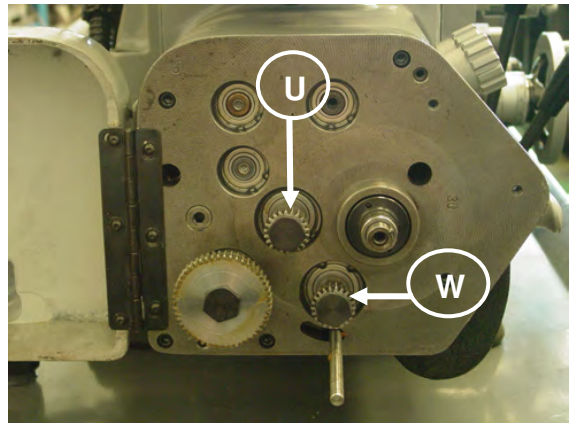
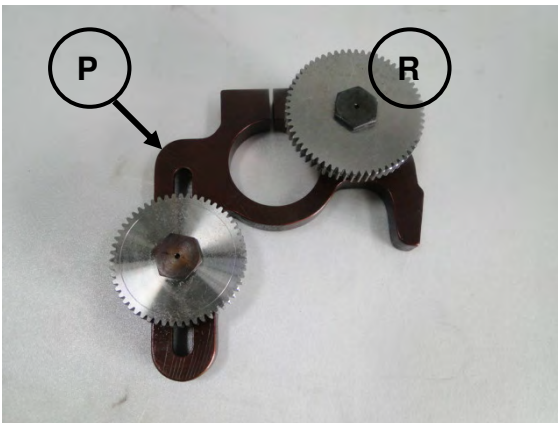
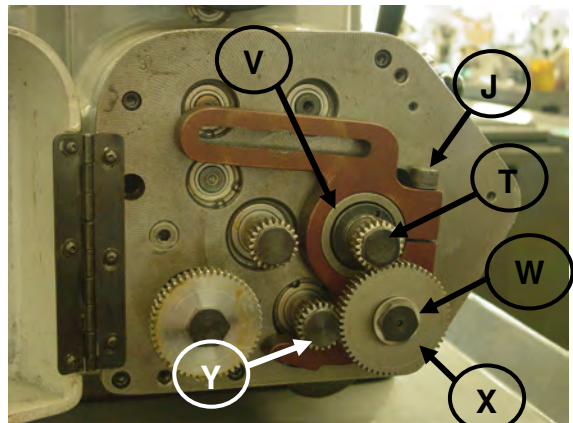

Figure 55-Threading Gearbox
Figure 56-Change Gear Bracket
Figure 57- Mounting Change Gear Bracket
2. On metric side of change gear bracket "P" (Figure 56) mount "Idler Gear" "R" (Figure 56). Do not tighten bolt "S" fully.
4. Mount change gear bracket assembly, Figure 56, on pivot post "V" (Figure 57), Do not tighten bracket bolt "U" (Figure 55) fully.
5. Remove "First Gear" "U" (Figure 55), and replace bolt. Do not misplace key.
6. Mount "First Gear on Screw" "T" (Figure 57).
7. If thread chart specifies number of teeth in "Tumbler Gear" to be other than 22 teeth, remove gear "Y" (Figure 57) and replace with specified gear.
8. Adjust "Idler Gear" "X" (Figure 57) with 0.003"-0.004" backlash between it and "First Gear on Screw" "T" (Figure 57). Use plastic shim stock to help determine backlash. Tighten bolt "W" (Figure 57).
9. Pivot bracket to obtain 0.003"-0.004" backlash between "Idler gear" "X" (Figure 57) and "Tumbler Gear" "Y" (Figure 57). Tighten bracket bolt "J" (Figure 57).
(b) When disassembling setup, remount 22 tooth "Tumbler Gear" "W" (Figure 55), and 22 tooth "First Gear" "U" (Figure 55).